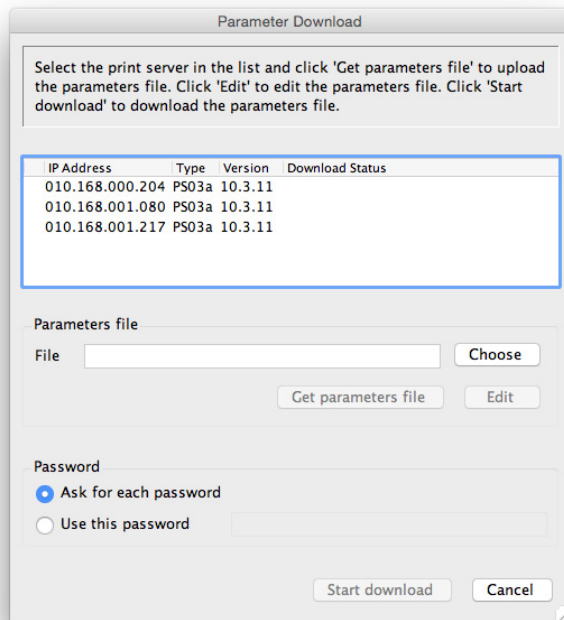

Fig. 7: InterCon-NetTool – Parameter download
3. *Select Actions – Download parameters file an. The Parameter Download dialog appears; see Fig. 7 ⇨ 112.*
The Parameter Download dialog appears; see Fig. 7 ⇨ 112.